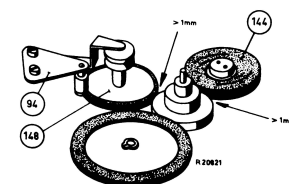

Fig 41
- In the rest position of the apparatus the rewinding idler wheel 148 should lie more than 1 mm free of the motor pulley (see fig. 41). This can be adjusted by moving plate 94. The idler wheel should also run free of the right hand reel disc.
- In the rest position the winding idler wheel 144 should be at least 1 mm free of the motor pulley and of the driving disc of the right-hand reel disc, fig. 41. This can be adjusted by bending the lip of bracket 91 which falls into the hollow of reel strip 52.